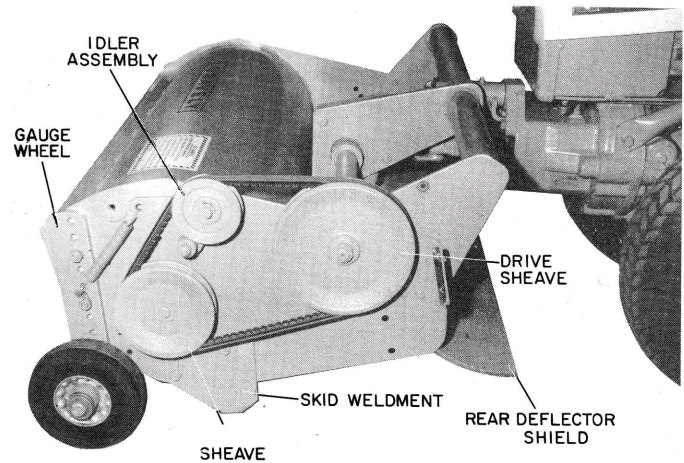

Figure 2
5. Attach the gauge wheel assemblies as in Fig.2. Note that there is a right and left hand assembly.